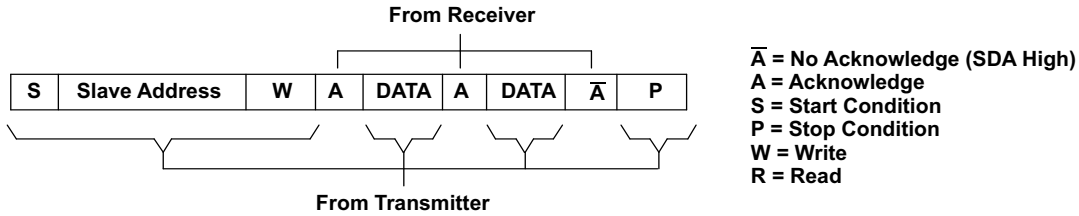
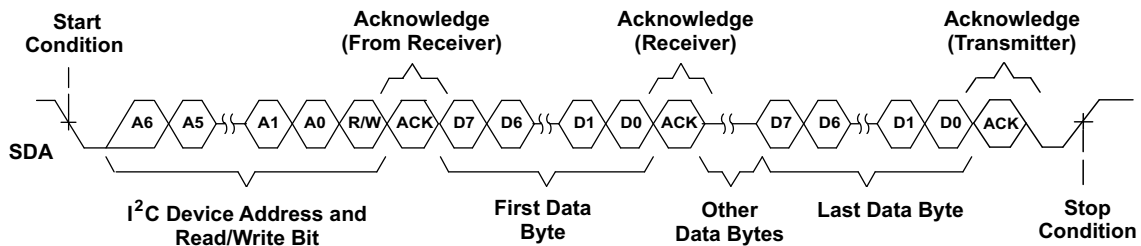
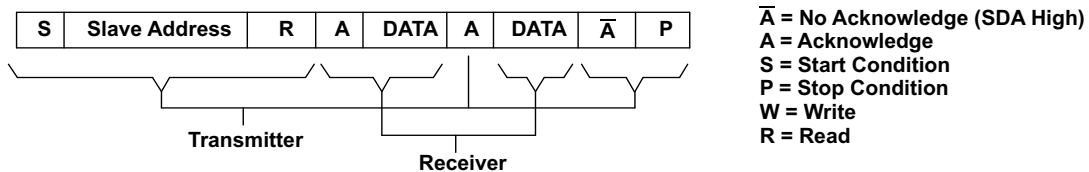
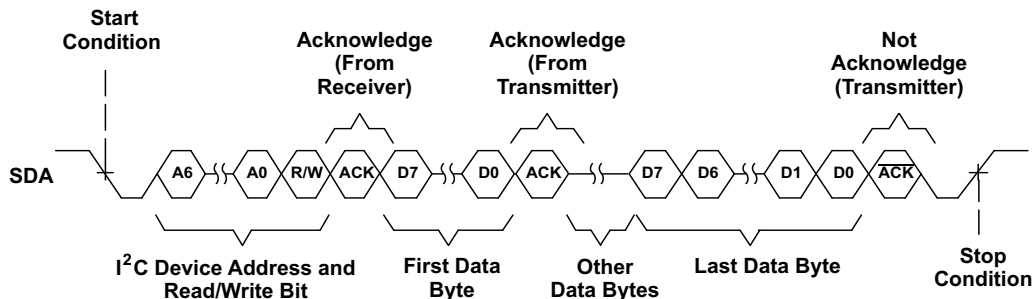

Figure 74. I²C Write Cycle
Figure 75. Multiple Byte Write Transfer
Figure 76. I²C Read Cycle
Figure 77. Multiple Byte Read Transfer
During a write cycle, the transmitting device must not drive the SDA signal line during the acknowledge cycle, so that the receiving device may drive the SDA signal low. After each byte transfer following the address byte, the receiving device pulls the SDA line low for one SCL clock cycle. A stop condition is initiated by the transmitting device after the last byte is transferred. An example of a write cycle can be found in Figure 74 and Figure 75. Note that the THS7303 does not allow multiple write transfers to occur. See example section – Writing to the THS7303 for more information.
acknowledges data bytes sent by the slave. When the master has received all of the requested data bytes from the slave, the not acknowledge (A) condition is initiated by the master by keeping the SDA signal high just before it asserts the stop (P) condition. This sequence terminates a read cycle as shown in Figure 76 and Figure 77. Note that the THS7303 does not allow multiple read transfers to occur. See example section – Reading from the THS7303 for more information.
The THS7303 operates using only a single byte transfer protocol similar to Figure 74 and Figure 76. The internal subaddress registers and the functionality of each are found in Table 2. When writing to the device, it is required to send one byte of data to the corresponding internal subaddress. If control of all three channels is desired, then the master has to cycle through all the subaddresses (channels) one at a time, see the example section –*Writing to the THS7303* for the proper procedure of writing to the THS7303.